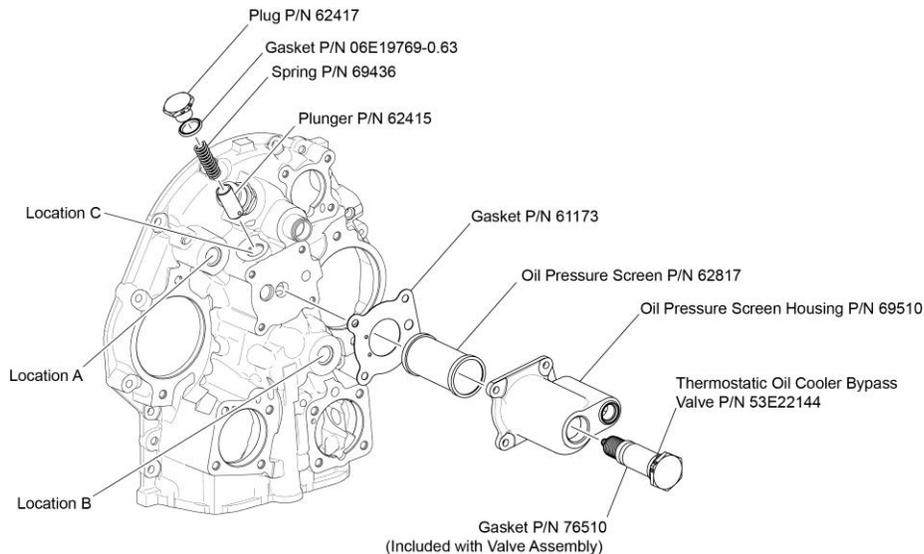

Figure 1
** Required only if the oil cooler line is to be installed at Location A (Figure 1).
1. Remove the plug P/N 62417, gasket P/N 06E19769-0.63, spring P/N 69436, and plunger P/N 62415 from location C in the accessory housing (Figure 1). Discard the gasket, spring, and plunger.
NOTICE: The oil supply line to the oil cooler can be installed at either location B or location C (Figure 1) depending on the arrangement. Refer to the applicable instructions below.
- A. Install the plug P/N 62417 with a new gasket P/N 06E19769-0.63 at location C (Figure 1).
- B. Connect the oil supply line to the oil cooler at location B (Figure 1) on the accessory housing.
- A. Install the plug P/N STD-784 at location B (Figure 1).
- B. Connect the oil supply line to the oil cooler at location C (Figure 1) on the accessory housing.
2. Connect the oil return line from the oil cooler to fitting installed at Location A (Figure 1).